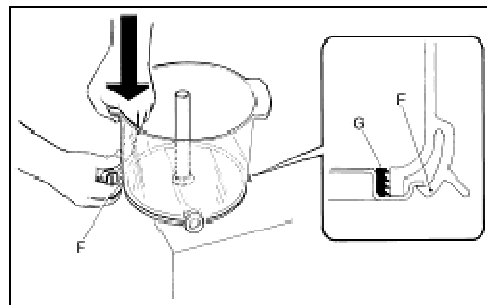

Fig. 12
- **W**hen fitting, position the seal (G) as shown in fig 12.
- **I**n order to facilitate fitting operations, spread Vaseline or another suitable lubricant over the seat of the container (A) where it comes into contact with the seal (G) (fig. 12).
- **P**ull the lever (F) outwards, pushing the tank downwards so that it fits into its seat (fig 12).